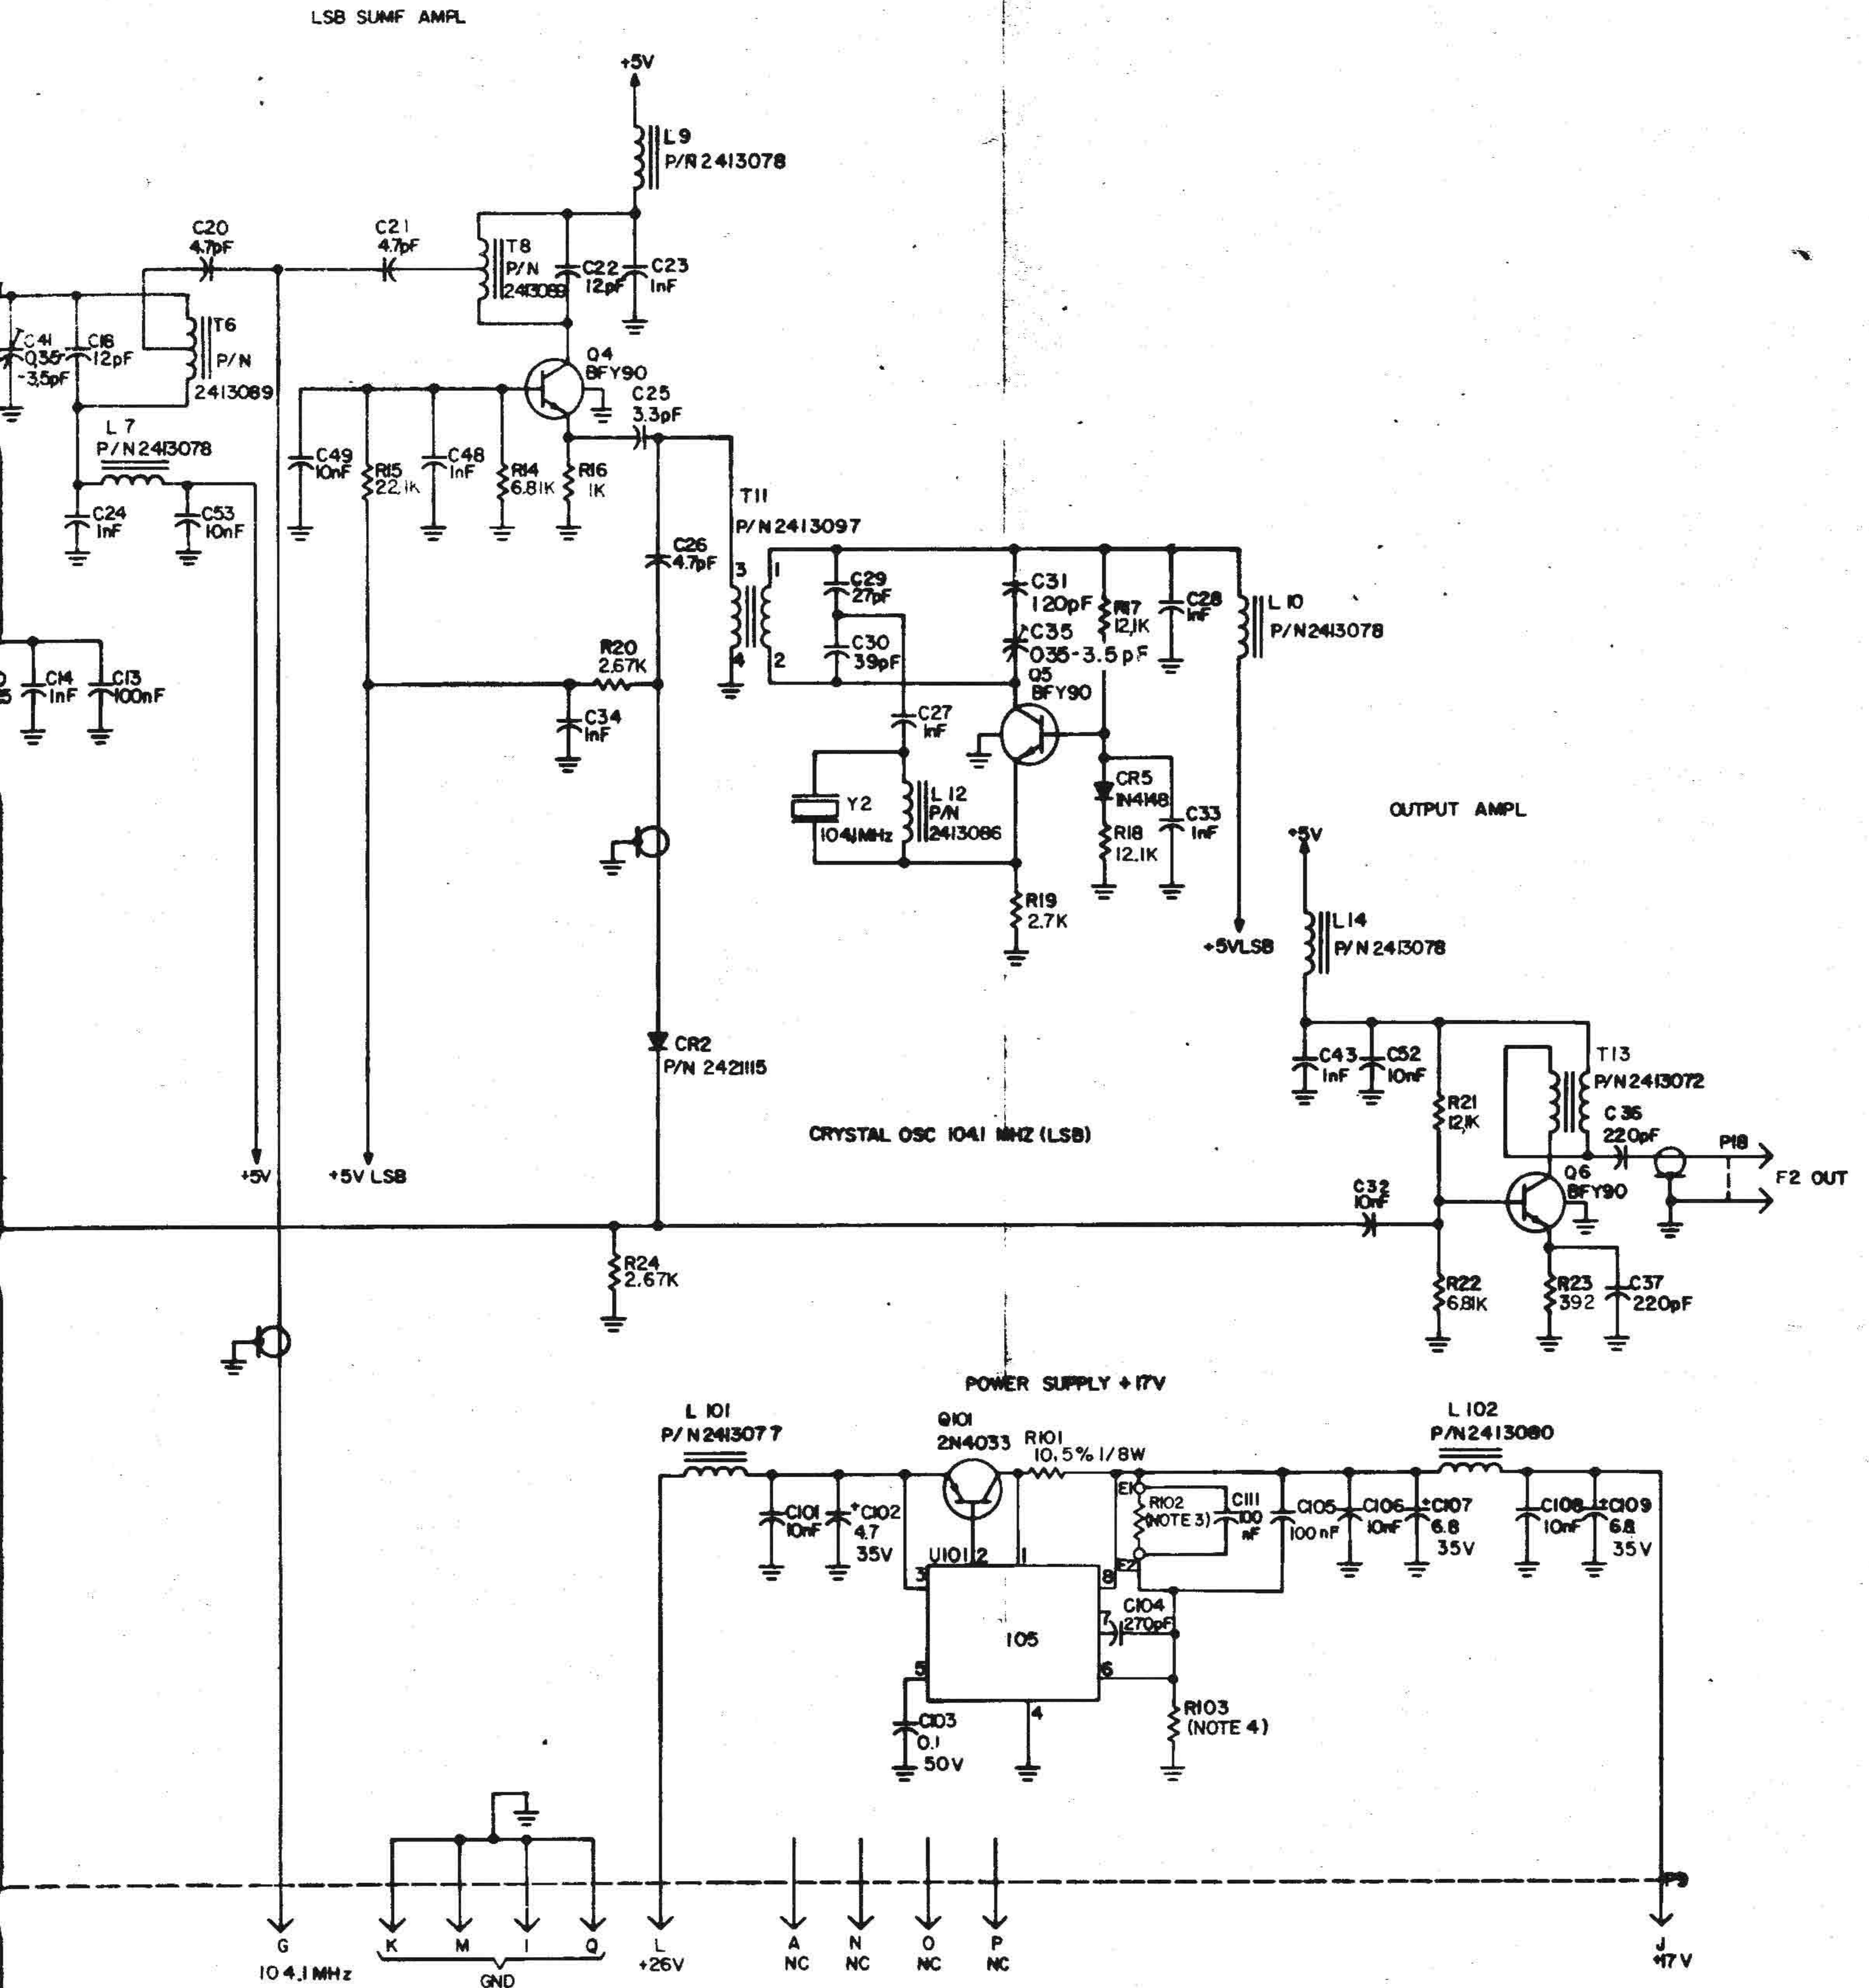

Fig. 2-58. Module USB 1A3A3, schematic circuit diagram
b. USB Path Circuit Analysis (fig. 2-58).
(1) 114.6-MHz oscillator. The 114.6-MHz frequency is generated by a crystal oscillator built around Q1. The transistor operates as a common-base amplifier, with positive feedback applied from a tap of the collector tuned circuit, through the crystal, to its emitter. The bias to Q1 is supplied via R1, R2 and is temperature-compensated by CR3. C6, C7 are RF bypass capacitors. The DC voltage to the oscillator is supplied via Q9 and L2. Q9 saturates when the USB line (pin D) is low (in USB mode), thereby applying +5VDC on the 5V USB line to Q1. Current also flows from the +5V USB line through R25, CR1 and R24, causing conduction of RF switching diode CR1, while CR2 is reverse-biased. CR1 then connects the output signal of the 114.6-MHz oscillator to the F2 output amplifier, Q6.
(2) F2 amplifier. The F2 amplifier is built around Q6. The input signal is coupled through C35. R21 and R22 supply base bias. R23, bypassed at RF by C37, is the emitter bias resistor. The output signal develops across T13 and is coupled through C36 to connector P18. L14, C43 and C52 filter the +5V supply line of Q6.
(3) USB amplifier and mixer.
c. LSB Path Circuit Analysis (fig. 2-58). When LSB operation is selected, the USB control line rises to +12V and Q12 and Q9 cut off. Q7 also cuts off, and Q8 saturates due to base current flow via R28. The 104.1-MHz oscillator, designed around Q5 (identical to the 114.6-MHz oscillator) is activated, and its output signal is connected, via CR2 (forward-biased by the current flowing from the collector of Q8 through R20 and R24) to the base of the F2 amplifier, Q6. The 104.1-MHz signal is also connected to the common-base amplifier Q4. The Q4 amplifier output signal, taken from a tap of T8 in its collector circuit (T8, C22), is passed, via C21, to pin G.
d. +5V Regulator (fig. 2-58). The +5V supply voltage for the oscillator and amplifiers is supplied by Q11. The base drive for Q11 is supplied from the +12V supply (pin C), via the voltage divider comprised of R34, R35 and temperature-compensation diode CR7, and filtered by C40 and C41.
e. +17V Regulator (fig. 2-58). The +17V regulator consists of U101 and Q101. The integrated circuit regulator U101 controls booster transistor Q101, which reduces the higher battery voltage, applied to pin L, to the regulated +17V voltage. This voltage